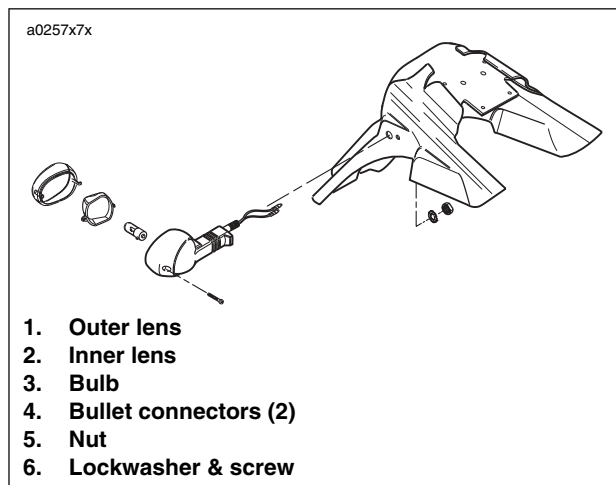

Figure 7-68. Rear Turn Signals
3. See Figure 7-68. Remove nut and lockwasher.
- See Figure 7-68. Insert bullet connectors through rear hole in tail lamp bracket. Attach turn signal using lock-washer and nut. Tighten nut to 25-28 **in-lbs** (2.8-3.2 Nm).